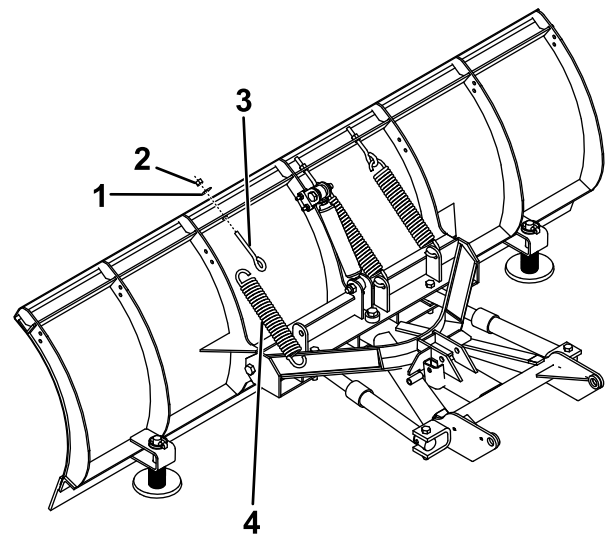

Figure 7
- Hook the other ends of the trip springs to the eyebolts (Figure 7).
- Insert the threaded end of the eyebolts through the holes on the plow blade and secure them using washers and self-locking nuts (Figure 7).
- Hook the trip springs through the holes on the push-frame assembly (Figure 7).